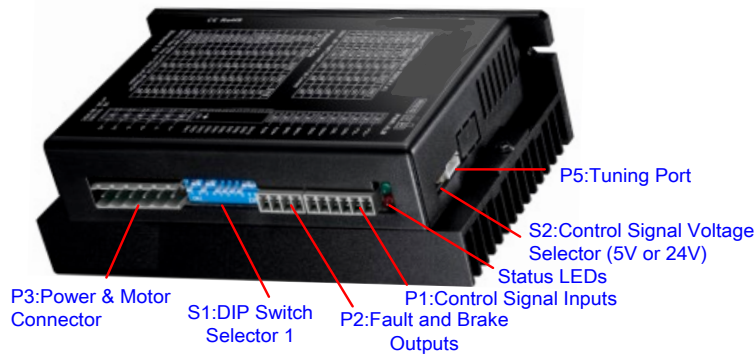

Figure 2 Connectors, DIP switches, and LED locations
PUL+ (CW+)	Pulse and Direction Connection: (1) Optically isolated, high level 4.5-5V or 24V, low voltage 0-0.5V (2) Maximum 200 KHz input frequency (3) The width of PUL signal is at least 2.5 μ s, duty cycle is recommended 50% (4) Single pulse (step & direction) or double pulse (CW/CCW) is set by DIP Switch SW9 (5) DIR signal requires advance PUL signal minimum 5 μ s in single pulse mode (6) The factory setting of control signal voltage is 24V, must need to set S2 (figure 2) if it is 5V
The RM72A can accept differential or single-ended control signals (pulse, direction, and enable) in open-collector or PNP connection through the P1 connector (figure 2). It is recommended to add an EMI line filter between the power supply and the drive to increase noise immunity for the drive in interference environments.
- (1) ENA signal is no-connected as default;
- (2) Control signal amplitude is 24 V as default. If it is 12 V, please set the S2 (Figure 2) selector switch to 5 V first, then connect 1KΩ resistor; If it is 5V, please set the S2 to 5V.
The second 1-bit selector is located on the top (S2 in figure 2), used to configure the voltage of control signals. For the safety of optically coupled, the factory setting is 24V, which no need to connect 2K resistors like the old drives, making it easier to use. When the voltage of the control signal is 5V, the S2 must be set to 5V, otherwise, the motor won't work.